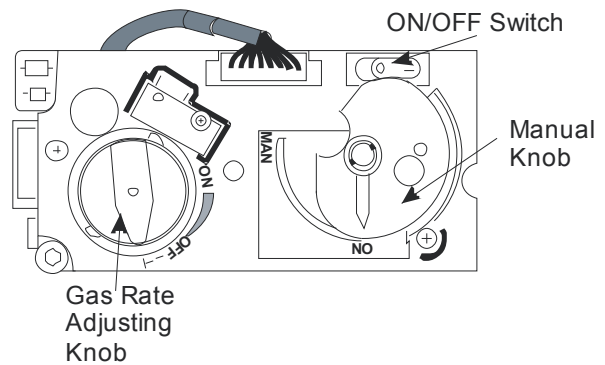

Figure 12 – Total Control Gas Valve
2. Simultaneously press and hold the ● (red circle) and 🔥 (large flame) buttons until a short acoustic signal confirms the start sequence has begun, then release the buttons (see **Figure 12**).